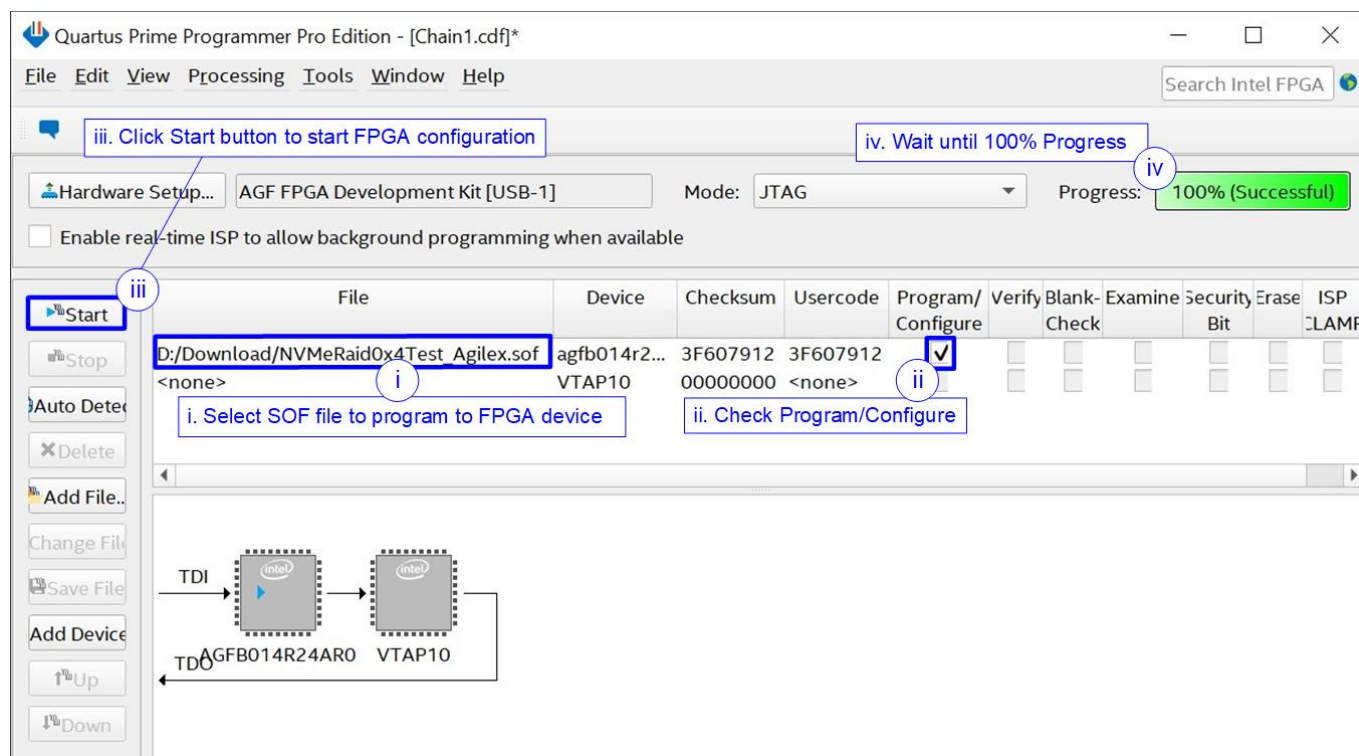

Figure 2-5 Programmed by QuartusII Programmer
- 1) Use QuartusII Programmer to program “NVMeRaid0x4Test_xxx.sof” file, as shown in Figure 2-5.